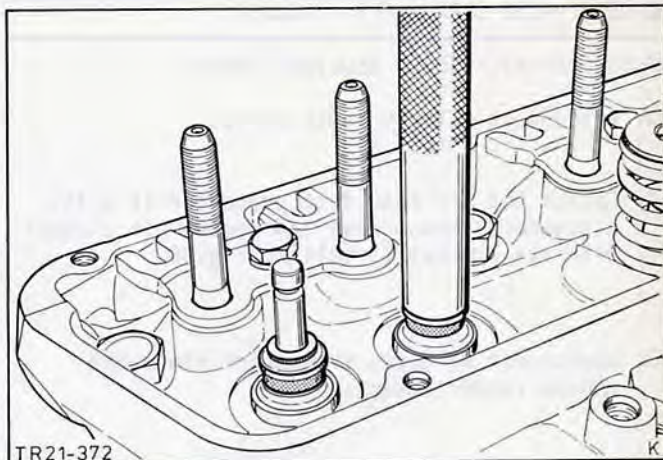

Fig.91. Fit valve stem oil seals.
5. Mask the valve collet recesses with adhesive tape. Moisten the valve stem oil seals with oil and fit with special tool 21-007, Fig.91. Then remove the adhesive tape from the valve stem again.